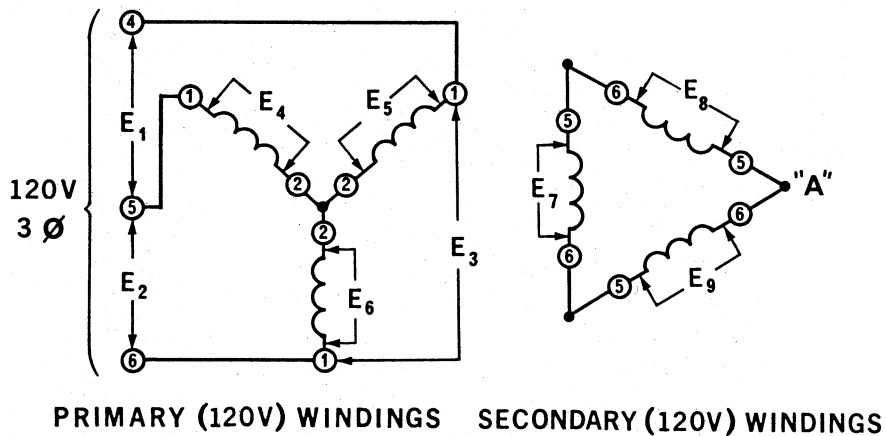

Figure 48-7.
- 3. a. The circuit shown in Figure 48-7 has three transformers connected in a _____ configuration.